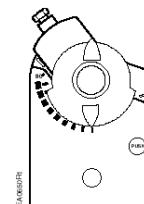

**Figure 13.**
- b. Hold down the **PUSH** button and rotate the shaft adapter to the left until it stops. Figure 13.